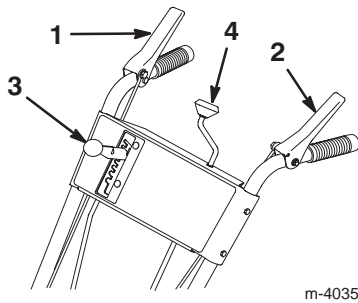

Figure 20
- **Auger/Impeller Drive Control Lever** (Fig. 20)—To engage both the auger and impeller, press the lever against the right handgrip. To disengage, release the lever.
- **Traction Control Lever** (Fig. 20)—To engage the traction (wheel drive), press the lever against the left handgrip. To stop the traction, release the lever.
- **Speed Selector** (Fig. 20)—This control has seven positions: five forward and two reverse gears. To change speeds, move the speed selector to the desired position. The lever locks in a notch at each speed selection. The speed selector may shift with difficulty in heavy load conditions.
- **Discharge Chute Control** (Fig. 20)—Rotate the discharge chute control clockwise to move the discharge chute to the left; counterclockwise to move the chute to the right.
3. Release the auger/impeller drive control lever and the traction control lever (Fig. 20).
11. Move the speed selector (Fig. 20) to first gear, squeeze the traction control lever to the handgrip, and then release the traction control lever. If the snowthrower moves forward before engaging the traction drive control lever or after releasing the lever, see Adjusting the Traction Drive Belt on page 22.